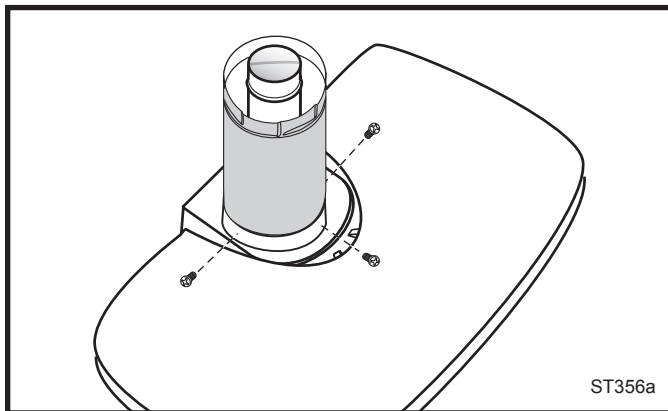

Fig. 22 DuraVent - install outer adapter pipe.
2. Install the Outer Adapter Pipe. Apply a 1/4" bead of cement around the outside surface, about one inch from the crimped end. (Fig. 22) Orient the vertical seam to the rear, and insert the crimped end of the outer pipe into the flue collar. Fasten with three sheet metal screws provided.